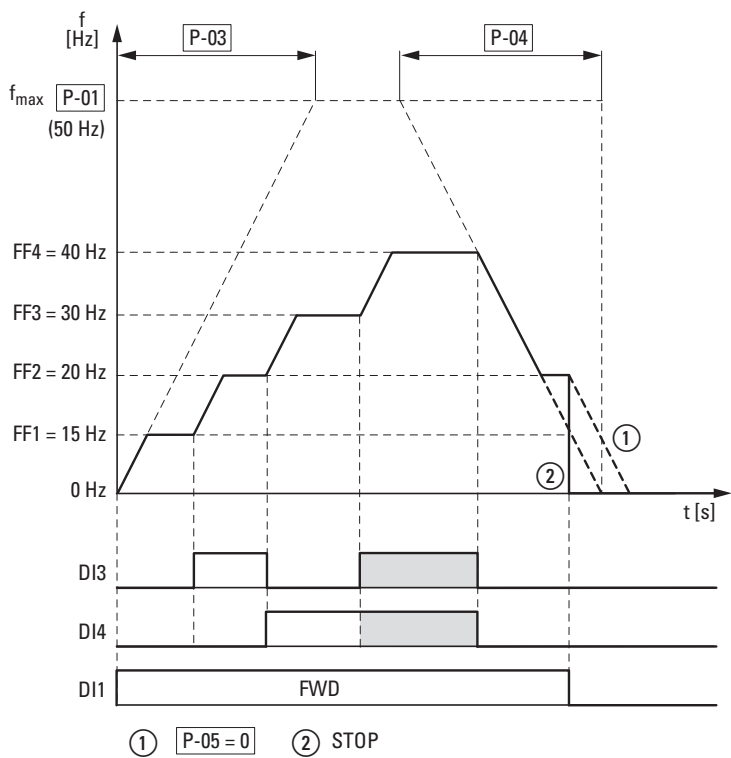

Figure 74: Example: Activation of the fixed frequencies with acceleration and deceleration ramps
The change between the individual fixed frequencies is done with the acceleration times and deceleration times set at P-03 and P-04. (→ Figure 74). When the FWD or REV enables are revoked, the output frequency is inhibited directly ② (coasting to halt). When P-05 = 0, the drive performs a controlled deceleration ①.